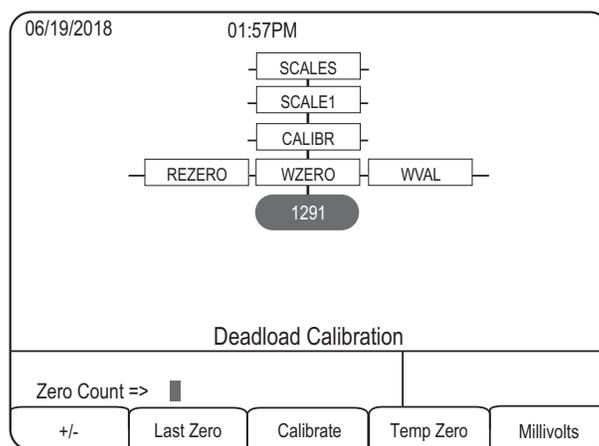

Figure 7. WZERO Calibration Display
5. Press  to go to zero calibration (*WZERO*). See Figure 7.